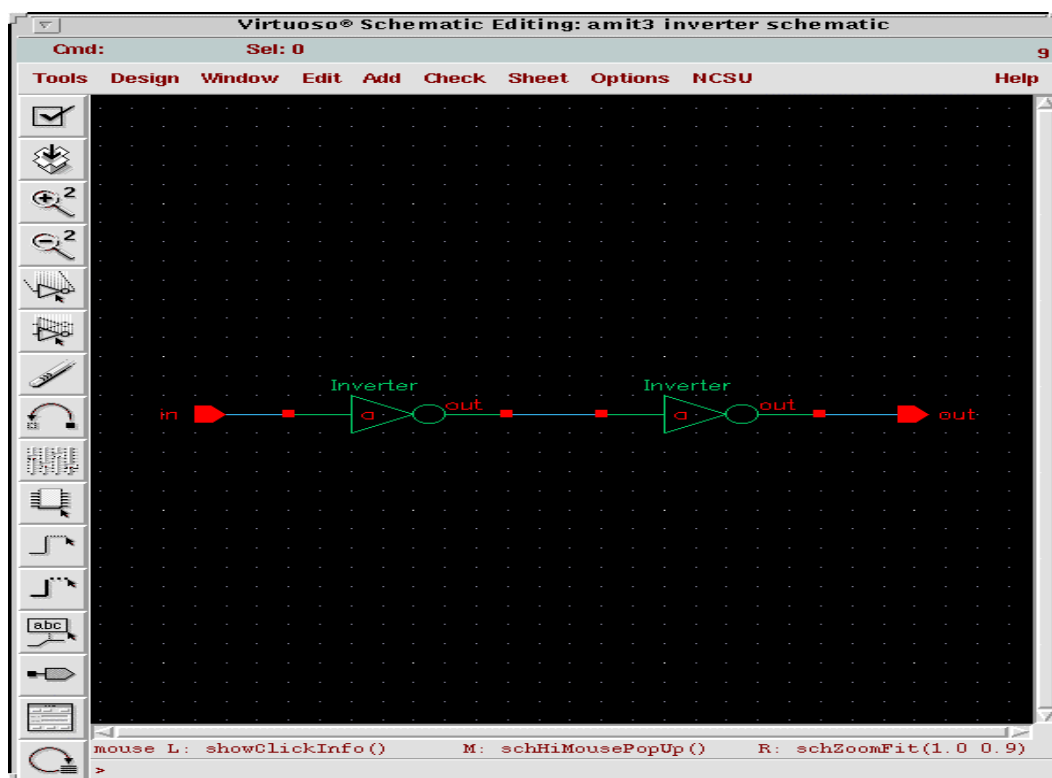
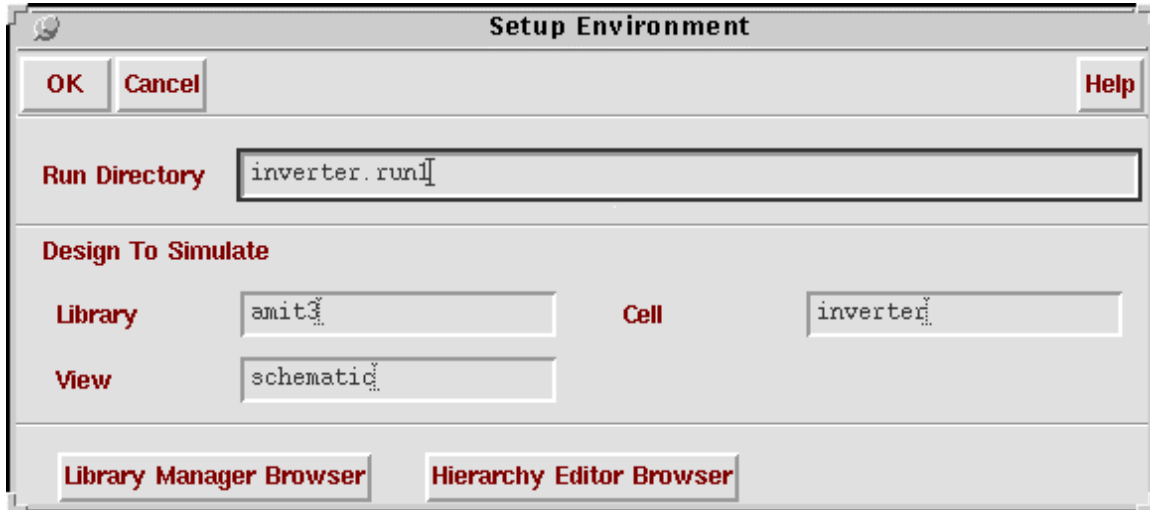

Fig 1: Inverter
Fig 2: Setup Environment
From the Library manager read the inverter schematic cell view. Save the schematic. The inverter schematic is shown in Fig 1.
- a. In Fig 1 select **Tools** -> **Simulation** -> **Verilog - XL** . The “Setup Environment” window opens as shown in Fig 2.
- b. In Fig 2, enter inverter.run1 in the **Run Directory** text box. All other default values are correct. Click **OK**.